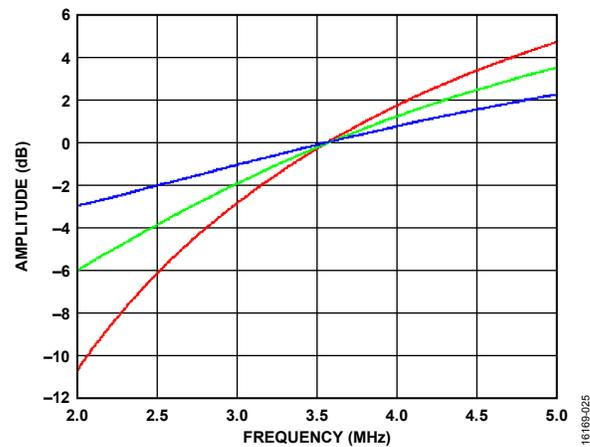
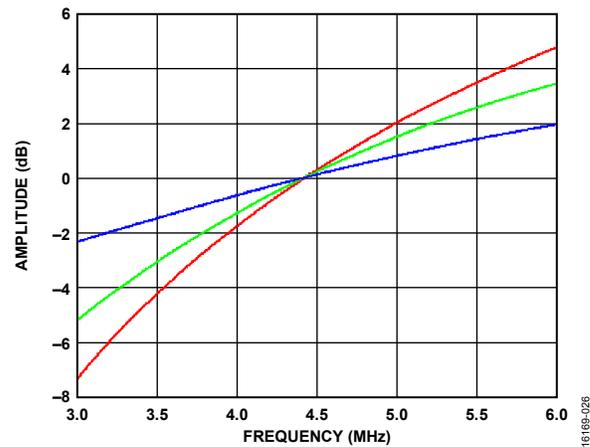

Figure 25. NTSC IF Filter Compensation (Zoomed Around f_{sc})
Figure 26. PAL IF Filter Compensation (Zoomed Around f_{sc})
The IFFILTSEL[2:0] bits allows the user to compensate for surface acoustic wave (SAW) filter characteristics on a composite input, as observed on tuner outputs. Figure 25 and Figure 26 show intermediate frequency (IF) filter compensation for NTSC and PAL, respectively.